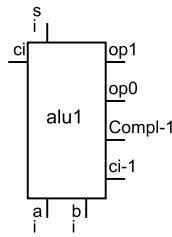

Figure 2.2: Macro of a 1-bit ALU
- ❑ Create the macro alu1, with inputs and outputs located as shown in figure 2.2.
- ❑ Check again that the inputs and outputs of the macro match the scheme shown in figure 2.2. It is a common mistake to swap the location of the inputs Compl-1 and ci-1. Another common error is putting bi to the left of ai.